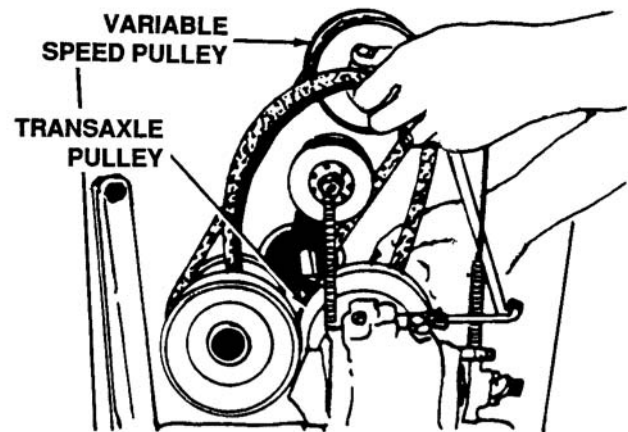

Figure 4-21. Location of V-Belt Pulleys
7. Slip the V-belt off the variable speed pulley and transaxle pulley. See Figure 4-21.